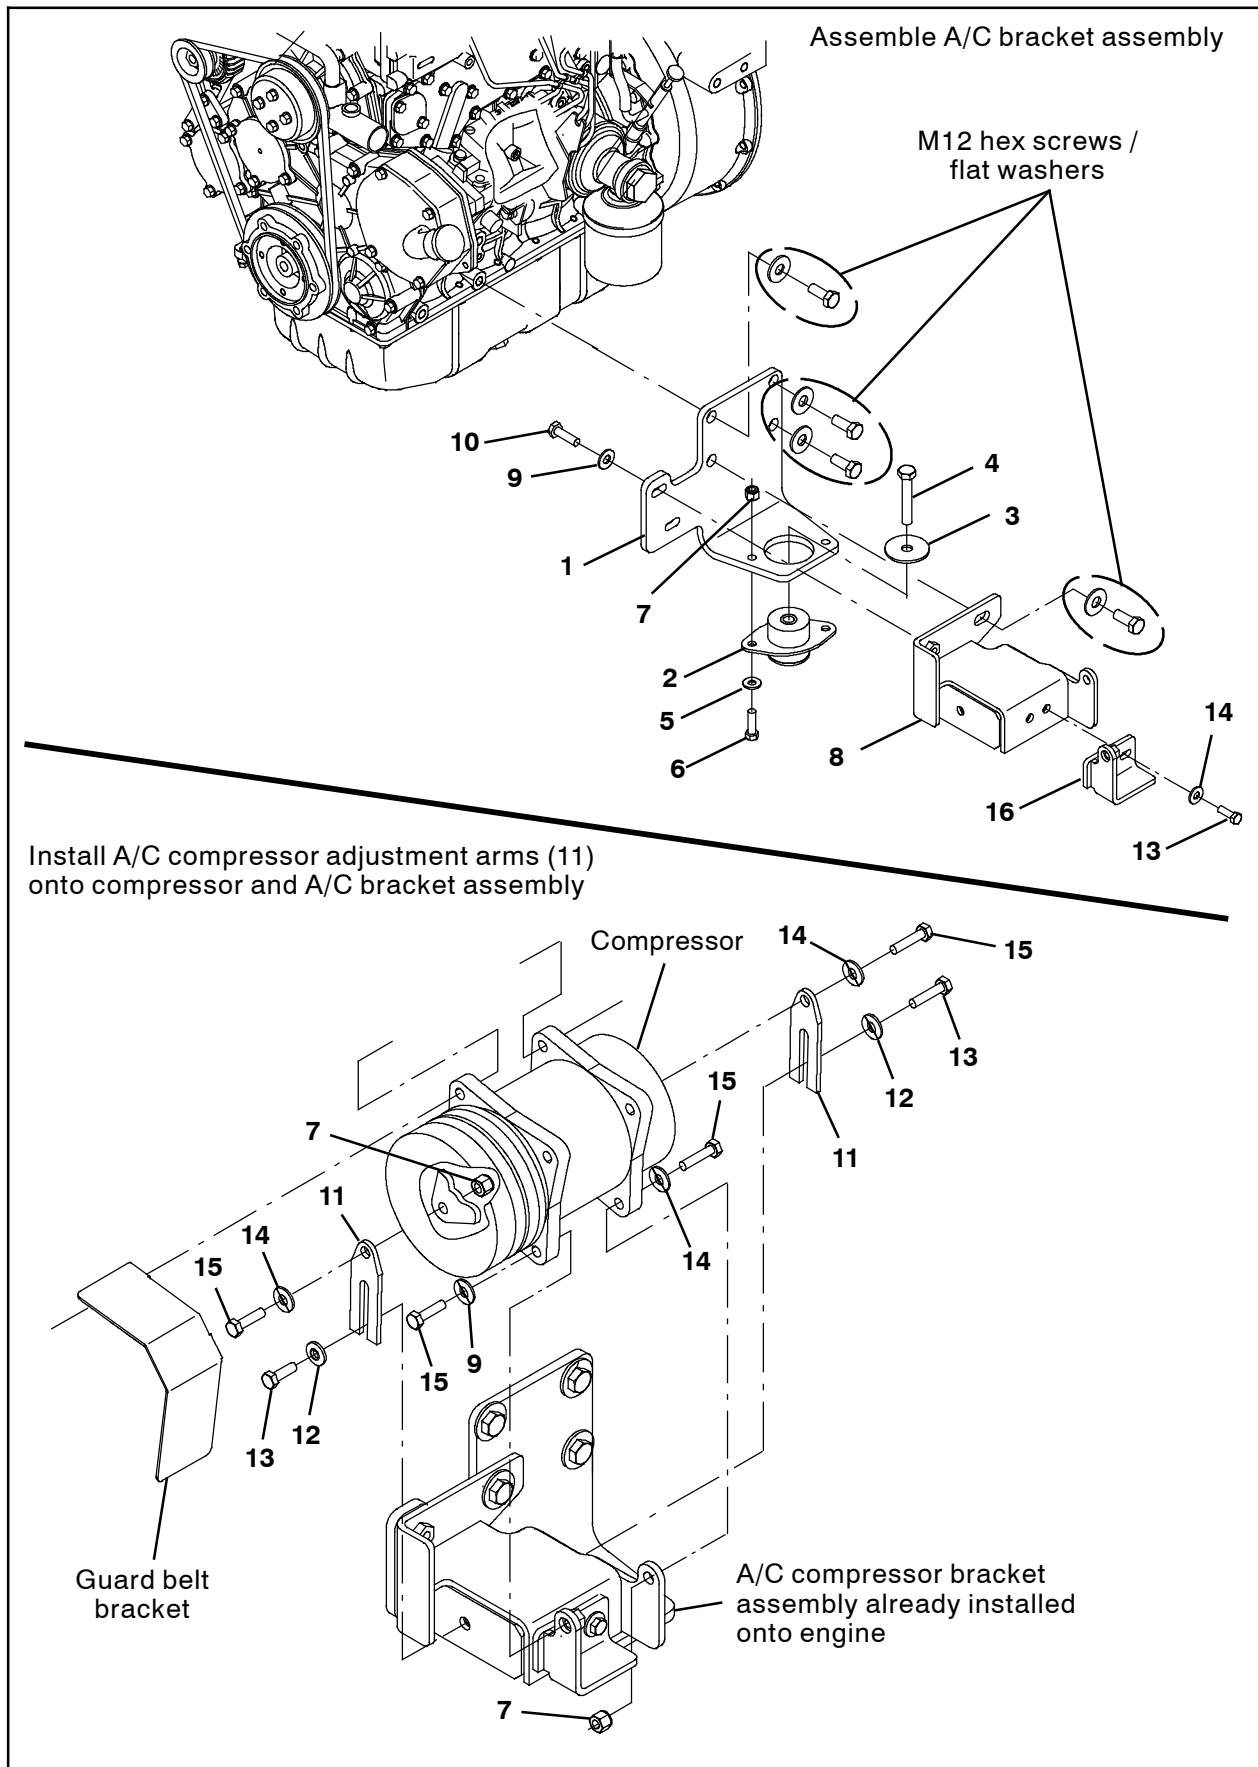

FIG. 3
6. Use two hex screws (6), two flat washers (5), and two hex nuts (7) to install the new isolator (2) onto the new engine bracket (1). (Fig. 3)
7. Use two hex screws (13) and two flat washers (14) to install the compressor mounting bracket (16) onto the compressor bracket (8). (Fig. 3)
8. Use one M10 hex screw (10) and one flat washer (9) to install the compressor mounting bracket (16) onto the engine bracket (1). (Fig. 3)
9. Use the four M12 hex screws and four flat washers to install the A/C compressor bracket assembly assembled in the previous several steps onto the engine. (Fig. 3)
10. Use one M12 hex screw (4) and a flat washer (3) to secure the isolator (2) / engine bracket (1) to the frame of the machine. (Fig. 3)
11. Use one hex screw (15) and one flat washer (14) to install each compressor adjustment arm (11) onto the compressor. (Fig. 3)
12. Use two hex screws (15), two flat washers (14), and two lock hex nuts (7) to secure the compressor bracket (8) to the compressor. (Fig. 3)
13. Use one M8 hex screw (13) and one flat washer (12) to secure each compressor adjustment arm (11) to the compressor bracket (8). Adjust compressor / compressor adjustment arm as necessary. (Fig. 3)